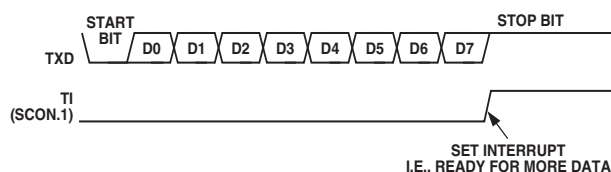

Figure 52. UART Serial Port Transmission, Mode 0
Transmission is initiated by writing to SBUF. The “write to SBUF” signal also loads a 1 (stop bit) into the ninth bit position of the transmit shift register. The data is output bit by bit until the stop bit appears on TXD and the transmit interrupt flag (TI) is automatically set as shown in Figure 52.